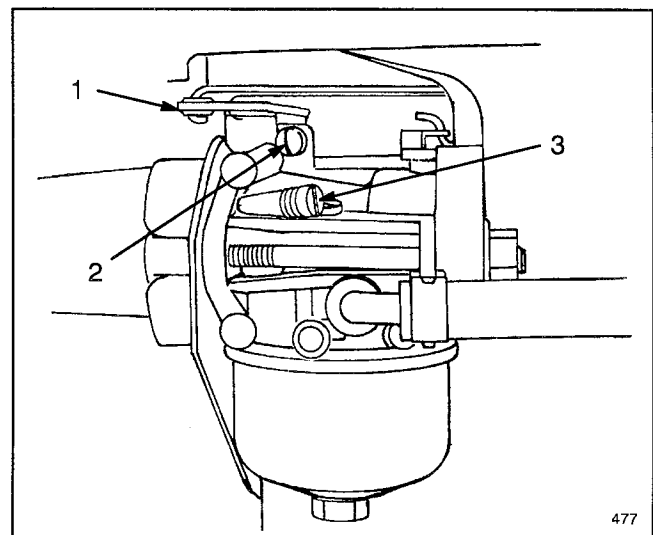

Figure 14
1. Gently turn idle mixture valve clockwise until it **just** closes (Fig. 14). Turning valve in too far may cause damage.
4. Rotate throttle (Fig. 14) counterclockwise and hold against idle speed adjusting screw (Fig. 14) while turning idle speed adjusting screw to obtain 1750 RPM.